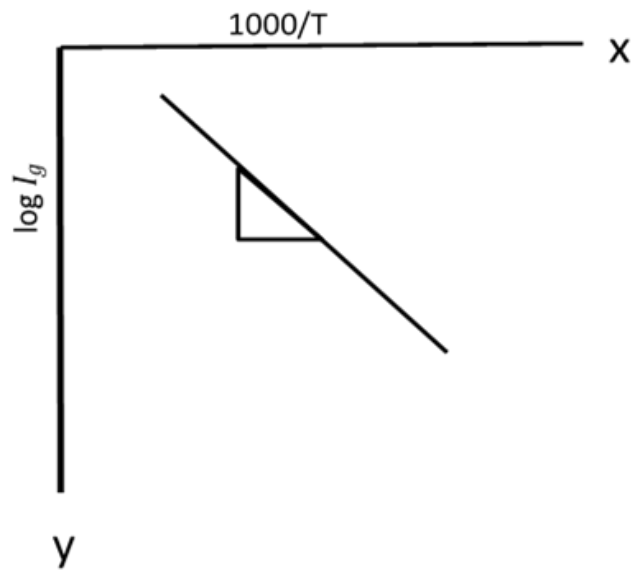

Figure. 1.2. Variation of current with temperature
- A graph is plotted taking 1000/T along X axis and  $\log I_s$  along negative Y axis, (Since  $I_s$  in the order of micro-ampere,  $\log I_s$  value will come in negative). A straight line obtained as shown in model graph (Figure.1.2). By finding the slope of the straight line, the band gap energy can be calculated using the given formula.